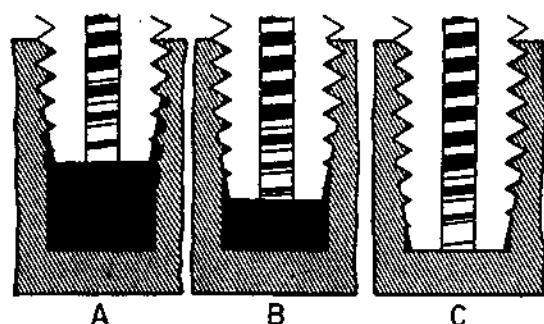

Figure 17-38. Use of Plug Tap After Taper Tap
- i) The procedure for the taper tap also applies to the plug tap, as shown in Figure 17-38.